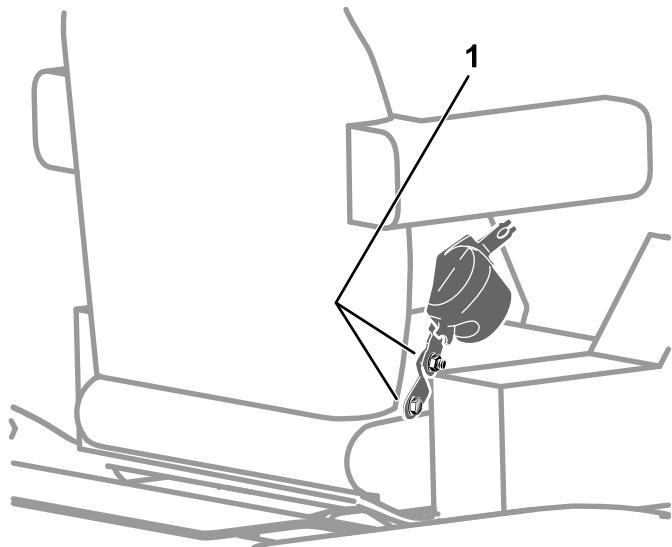

Figure 114
2. Check that the bolts and nuts that attach the seat-belt retractor and buckle to the seat are torqued to 47 to 61 N·m (35 to 45 in-lb); refer to Figure 114.